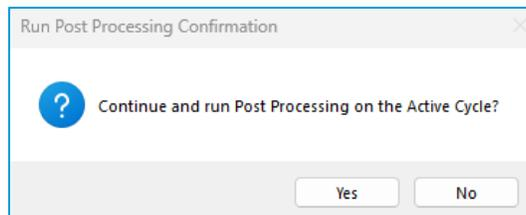

Figure 86 - Post Processing Confirmation Page
4. A Confirmation page will appear to confirm the execution of the tool (Figure 86).